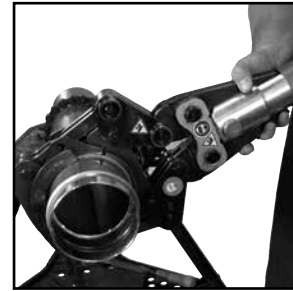

Figure 8: Placement of adapter jaw into pressing chain
4. Squeeze adapter jaw arms to open the jaw. Rollers must be fully retracted to open the adapter jaw. Place the open adapter jaw into the grooves in the pressing chain and let go of the jaw arms (Figure 8).